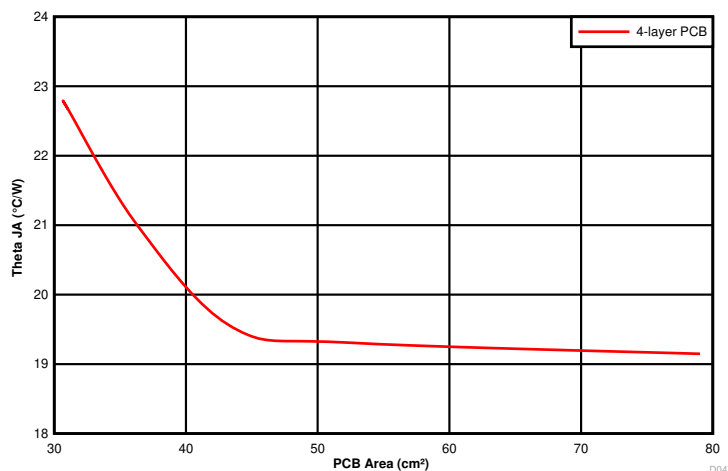

Figure 10-4. $R_{\theta JA}$ versus PCB Area (per Layer)
The amount of PCB copper affects the thermal performance of the device. Figure 10-4 shows the effects of copper area on the junction-to-ambient thermal resistance ($R_{\theta JA}$) of the TPSM53603. The junction-to-ambient thermal resistance is plotted for a 4-layer PCB with PCB area from 30 cm² to 80 cm².
3. Reference Figure 10-4 to determine the minimum required PCB area for the application conditions.